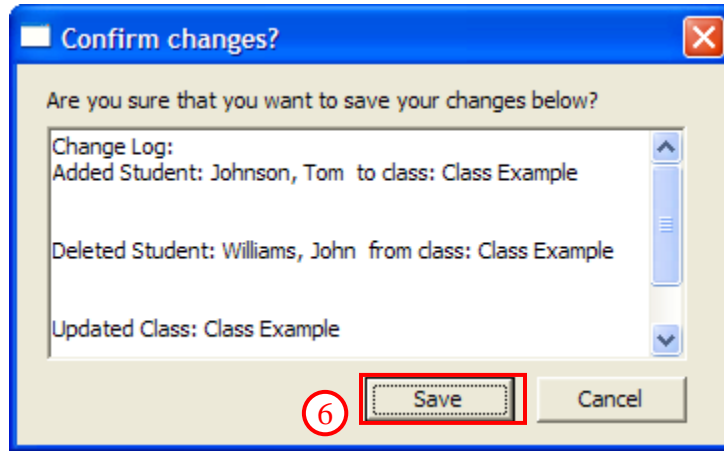

Figure 83. Class - Confirm Changes Dialog
6. A prompt is displayed detailing the addition/changes (Figure 83). Click the [SAVE] button to confirm.